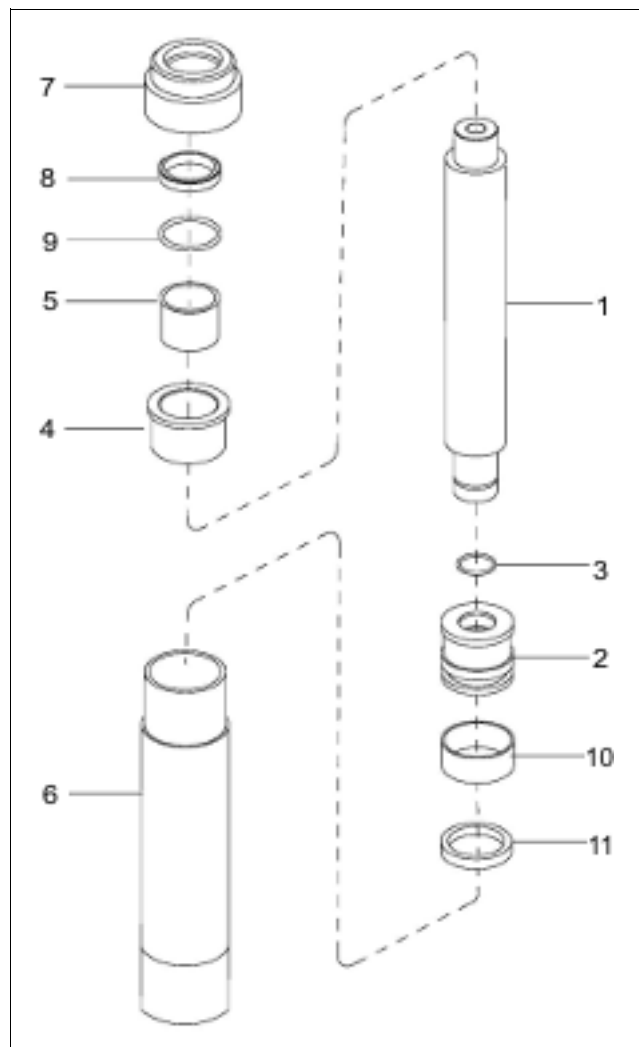

Figure 9-5 Lift Cylinder (Telescopic)
2. Remove gland nut (7, Figure 9-5).
3. Remove wiper ring (8) and O-ring (9) from gland nut (7).
4. Pull out piston rod (1).
5. Remove bearing (5) and bushing (4).
6. Remove piston (2) and O-ring (3) from rod (1).
7. Remove guide ring (10) and seal (11) from piston (2).
9. Install guide ring (10) and new seal (11) on piston (2).
10. Install new O-ring (3) on rod (1).
11. Install piston (2) on rod (1).
12. Install bearing (5) and bushing (4).